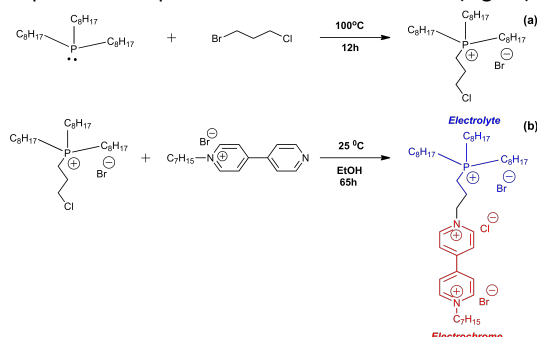

Figure 1: The synthetic route used to produce an IL with inherent electrochromic properties.
- 1) Trioctylphosphine was allowed to undergo a thermally controlled S_N2 addition reaction with a dihaloalkane, producing the precursor IL capable of undergoing further addition reactions (Fig. 1 (a)).
- 2) The precursor IL was then allowed to react with a mono-alkylated viologen precursor to produce the electrochromic IL (Fig. 1 (b)).